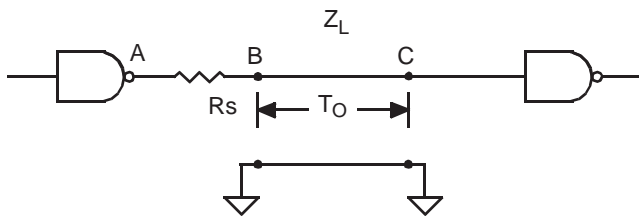

Figure 3. Series Termination
Series termination is accomplished by inserting a small resistor (typically 10Ω to 75Ω) in series with the transmission line, as close to the source as possible (Figure 3). Series termination is a special case of damping in which the series resistor value plus the clock generator output impedance equals the transmission line impedance. In this case, since there is no energy absorbed at the load (typically, loads have high input impedance) the wave will be reflected back. Using series termination resistors will prevent reflection of this reflected wave from the source. Equation 8 shows the relationship between the output impedance of the clock generator (RO), the series terminating resistance (RS), and the characteristic impedance of the loaded transmission line (ZL).